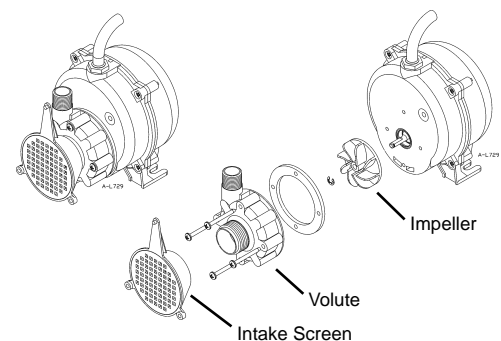

Fig 8
- **Clean pump.** Periodic cleaning of the pump will prolong the life and efficiency of the pump. For your safety, make certain the unit is disconnected from the power source before servicing pump. Remove the pump from the pump mount. Refer to figure 8 for disassembling the pump. **DO NOT** open the sealed portion of the unit or remove housing screws. Remove the intake screen. Remove the volute mounting screws. Lightly clean any corrosion or debris which may clog the impeller. Use a brush and penetrating oil and lightly scrape to remove encrusted material. Turn the impeller by hand to make sure it turns freely. After cleaning, reinstall in reverse order. Do not forget to replace the water delivery tube onto the pump outlet.